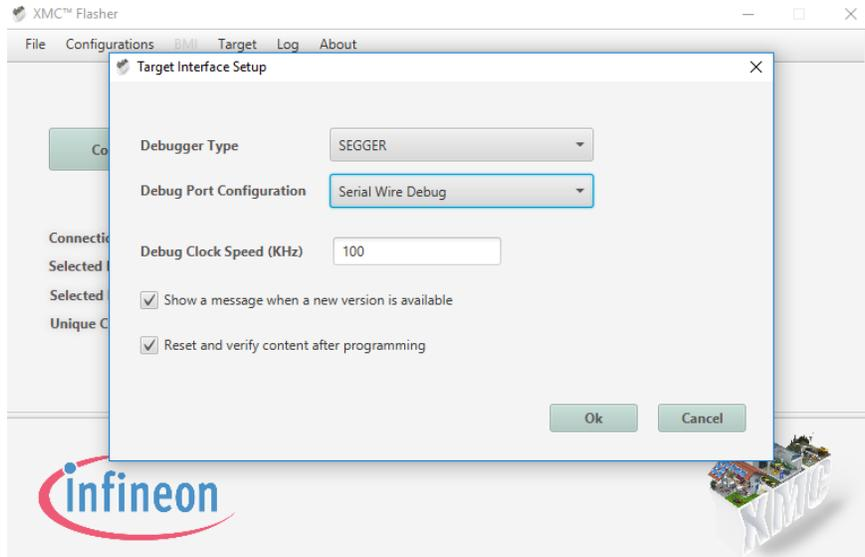

Figure 7. Serial Interface Setting
Step 5. Make sure the XMCFasher configuration is set for Serial Wire Debug and not JTAG (Figure 7). Some of the OPS243 version D2 boards require setting to JTAG. If you find XMCFasher does not connect to your OPS243 version D2 or later board, select JTAG as the Debugger Type. The Interface Setup is found under Configuration – Setup... Make sure the “Reset and verify content after programming” box is also checked off.